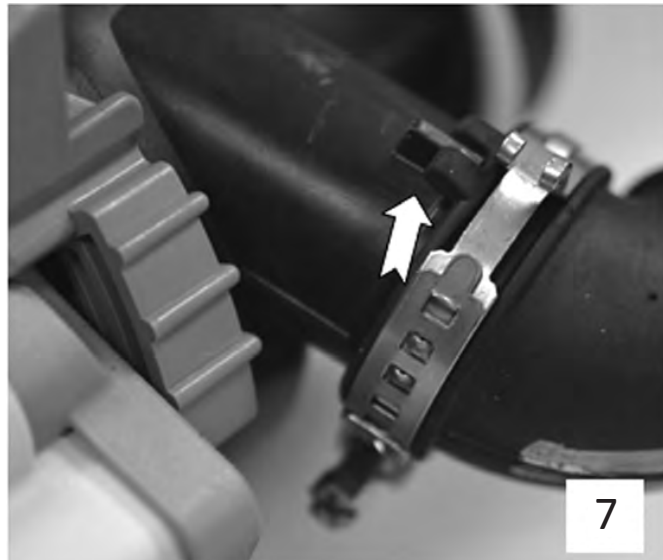

Figure 7
7. Align tabs and tighten clamps, see figures 7 and 8.